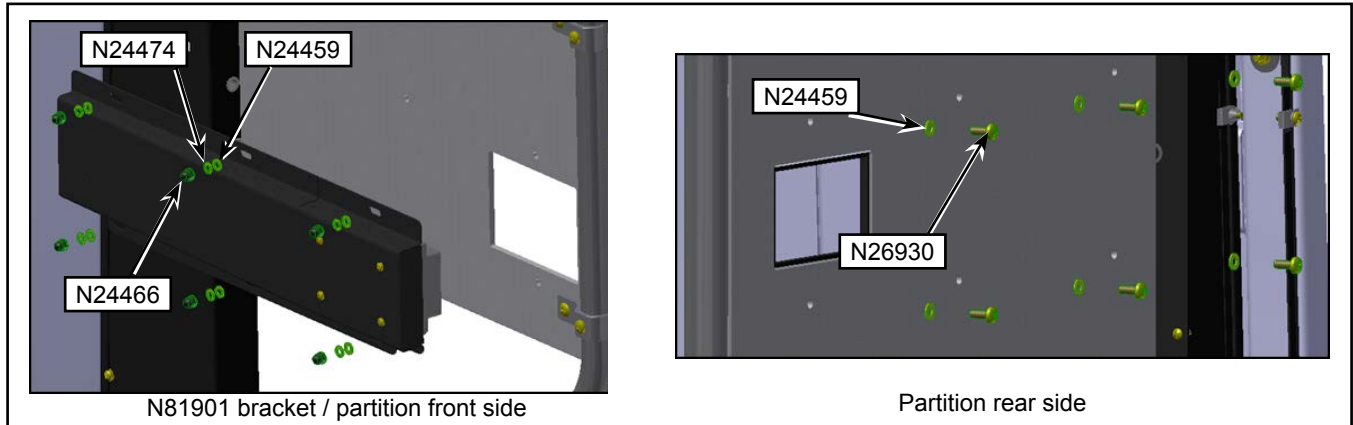

Figure 6 - N81901 Bracket Installation on Partition
- 1.10. Install the N81901 bracket with the sensor on the front side of the partition using N26930 screws (6x), N24459 flat washers (12x), N24474 lock washers (6x) and N24466 domed cap nuts (6x). See Figure 6.